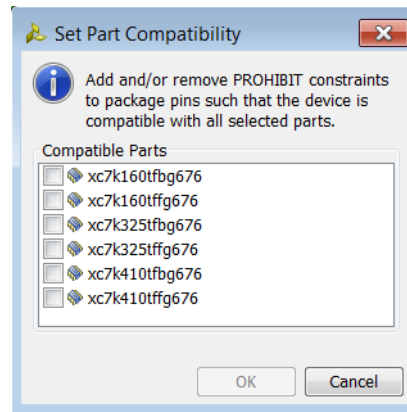

Figure 3-7: Set Part Compatibility Dialog Box
2. In the Set Part Compatibility dialog box (Figure 3-7), select the alternate parts, and click **OK**.